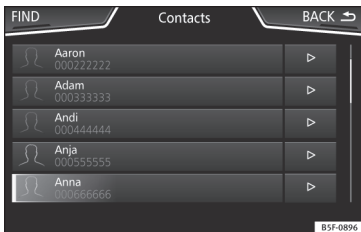

Fig. 189 Contacts Menu.
- Press the **Search** function button >>> Fig. 189 to open the search window.
- Press the function button **▷ >>>** **Fig. 189** located next to the entry on the contacts list.